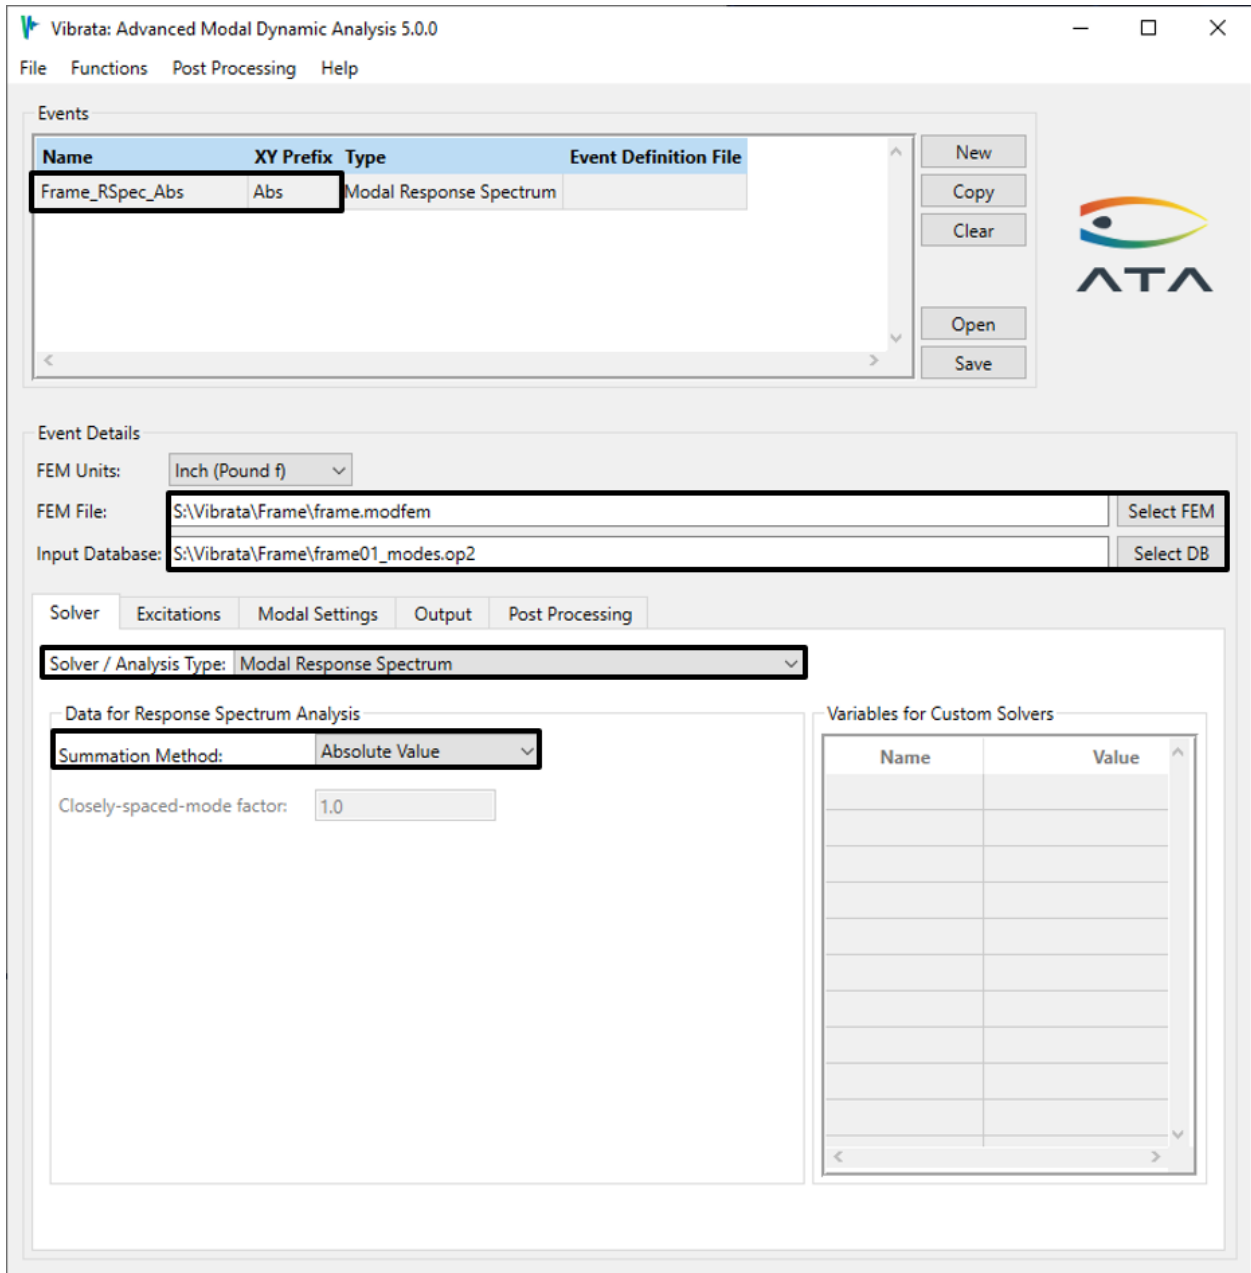

Figure 4-76. New response spectrum event with absolute value summation.
2. Create a new Vibrata event, select the "frame.modfem" file for the FEM and "frame01_modes.op2" for the results, and create a Modal Response Spectrum event with the **Summation Method** set to *Absolute Value* (Figure 4-76).